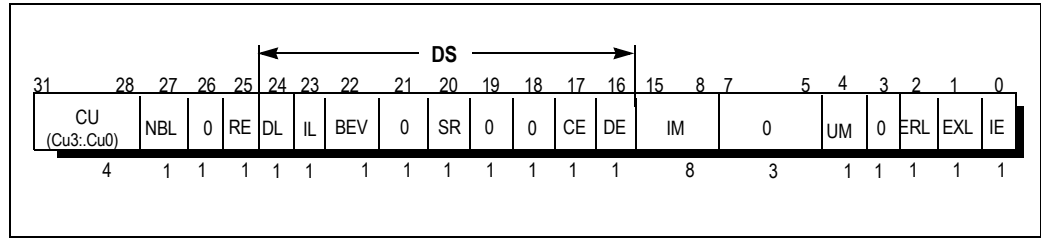

Figure 3.3 Status Register (RC32364)
The *Status* register (SR) is a read/write register that contains the operating mode, interrupt enabling, and the diagnostic states of the processor. Figure 3.3 shows the format of the entire register and Table 3.3 explains the fields. The following list provides details of the more important *Status* register fields:
- ◆ *The 8-bit Interrupt Mask (IM) field controls the individual enabling of eight interrupt conditions. Interrupts must be generally enabled before they can cause the exception (IE set), and the corresponding bits are set in both the Interrupt Mask field of the Status register and the Interrupt Pending (IP) field of the Cause register (for more information, refer to the Interrupt Pending (IP) field of the Cause register). IM[1:0] are the masks for the two software interrupts and IM[7:2] correspond to Int[5:0].*
- ◆ *The 4-bit Coprocessor Usability (CU) field controls the usability of 4 possible coprocessors. Regardless of the CU0 bit setting, CP0 is always usable in Kernel mode. For all other cases, an instruction for or access to an unusable coprocessor causes an exception.*
- ◆ *The 9-bit Diagnostic Status (DS) field (Status[24:16]) is used for self-testing and checks the cache and virtual memory system.*
- ◆ *The Reverse-Endian (RE) bit, bit 25, reverses the endianness of the machine. At system reset, the processor can be configured as either little-endian or big-endian. This selection is always used in Kernel and Supervisor modes, and also in User mode when the RE bit is 0. Setting the RE bit to 1 inverts the User mode endianness.*